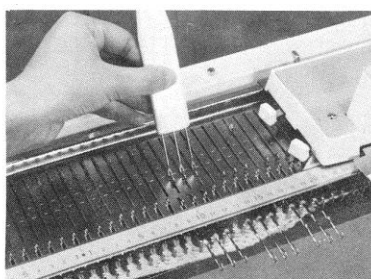

Fig.153 — 40 —
- b) Leaving in position (B) every 4th needle starting with the right end needle, bring forward into position (D) from position (B) all other working needles, preferably using the treble eye transfer tool as shown in Fig. 153.